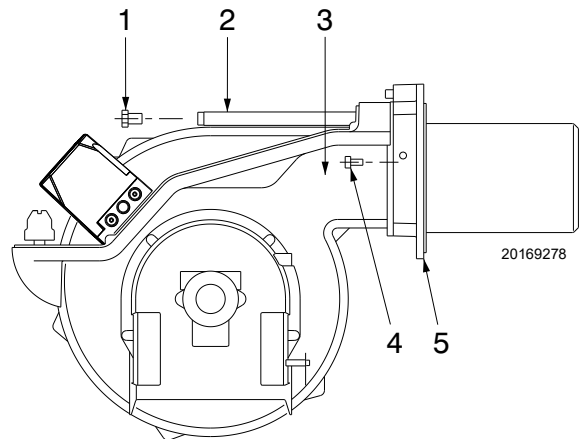

Fig. 16
Finally remount the burner 3)(Fig. 16) on the slide bars 2) and slide it up to the flange 5), **keeping it slightly raised to prevent the flame stability disk from pressing against the blast tube.**
- open the burner on the slide bars 2)(Fig. 16) as shown in Fig. 12 on page 16.